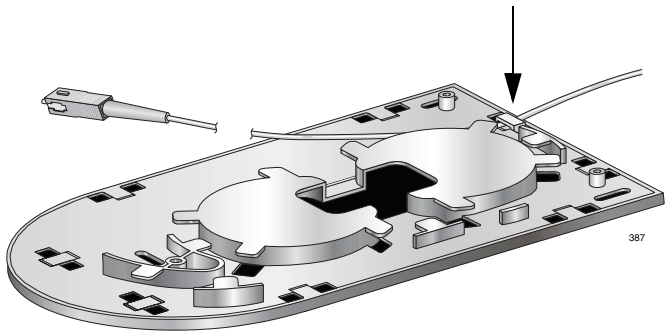

Figure 11. Securing the Cable to the Base
7. Knock out one of the locations and secure the cable to the base with a cable tie, as shown in Figure 11.